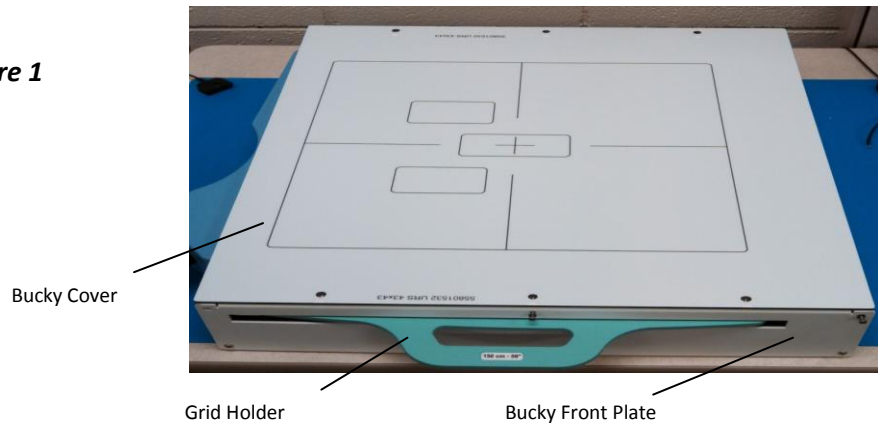

Figure 1
1. Remove the following: **Figure 1**